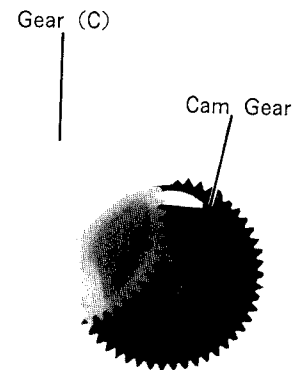
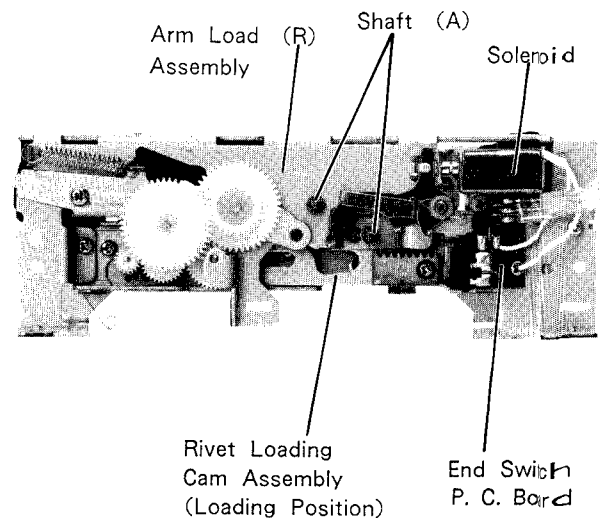

Figure 32
Figure 33
- 3) Useful hints for remounting the can gear and gear (C).
- ① Set the Rivet Loading can Assembly to the loading position as shown in Figure 33.
- ② Engage the gear can with the gear (C) as shown in the Figure 32, and mount them on the shafts (A) of the Arm Load (R) Assembly as shown in Figure 33.